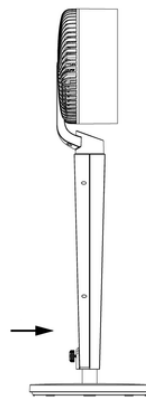

Fig.2
2. Firmly tighten the screw on the back of the body (Fig. 2).